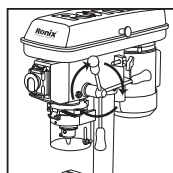

Fig5
■ INSTALLING FEED HANDLES (FIG 5)